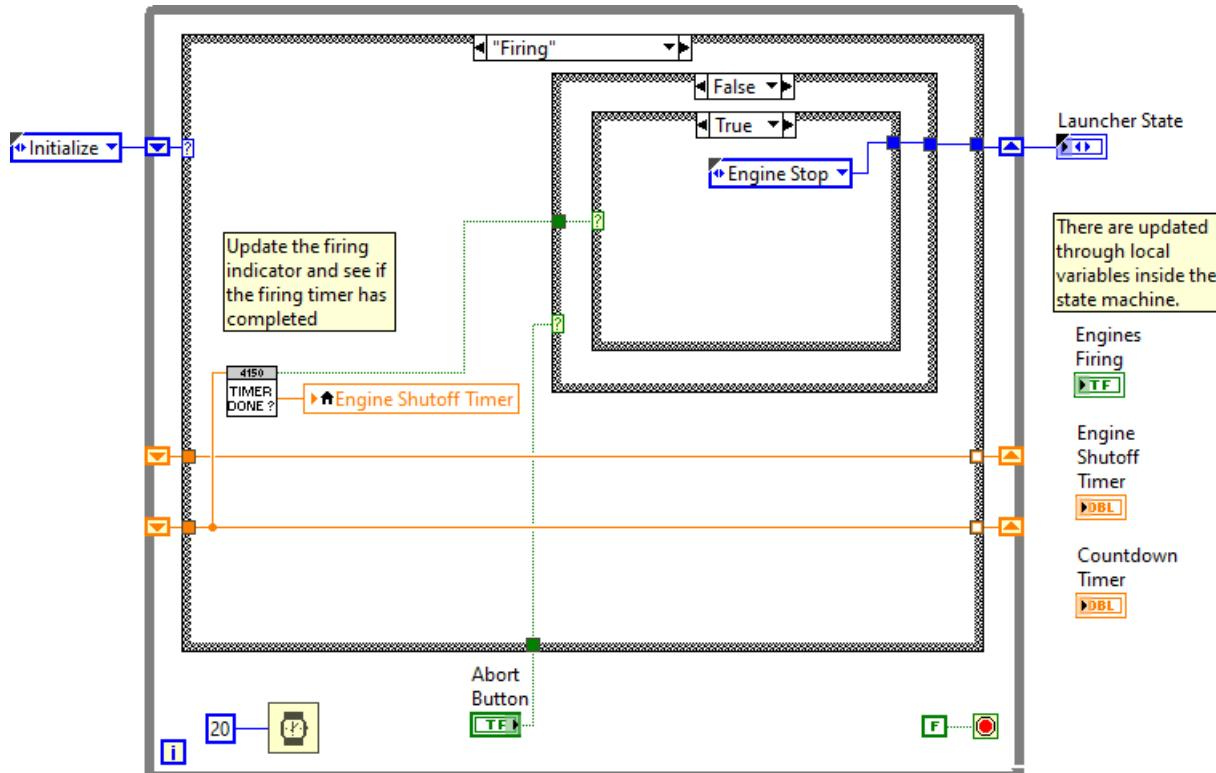

FIGURE 3.20 Completed Firing State
25. The next two states, Start Firing and Firing are very similar to Start Countdown and Countdown. Start Firing starts a timer and Firing checks to see if it is done. The Start Firing state also turns the engines on. Use duplicate to create these two states. Use a separate shift register for the Firing timer. Remember to turn the engines on using a local variable in the actions section of the Start Firing state. Make certain to perform the actions for each state and choose the correct states to execute next. The Firing state should look like figure 3.20.